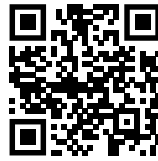

Fig. 110
- ▶ Open Liebherr SmartMonitoring Dashboard. (see Fig. 110)